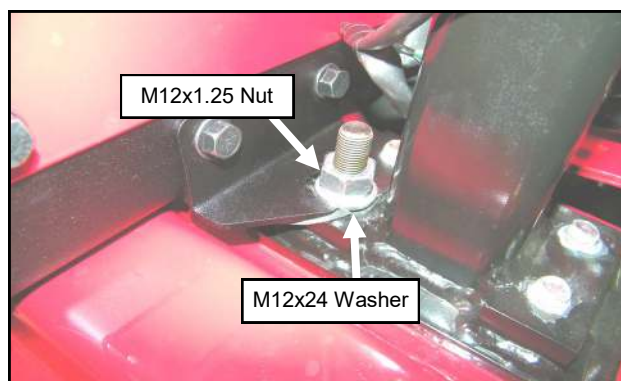

Fig. 4.3a (Attach Side Frame)
- 4.3 Set the left side frame in place and loosely secure the lower ROPS bracket to the extended ROPS bolt installed in step 1.11, followed by two screws and nuts under the floor board. See Figures 4.3a-c.